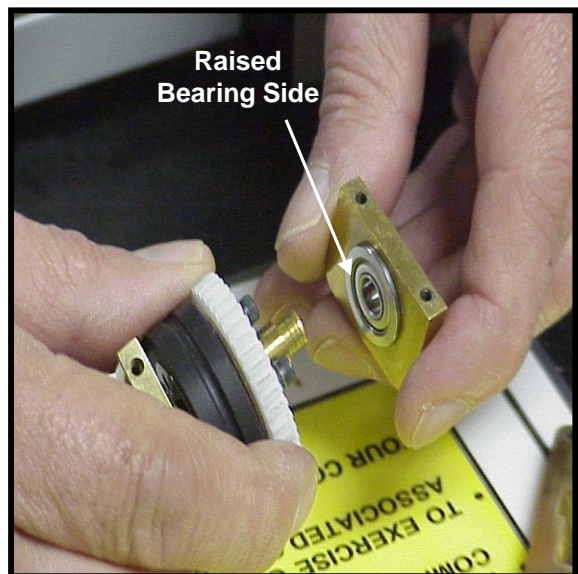

Figure 45
13.5.2.11 Side Plastic Gear-side Bearing Hanger back onto hub shaft with raised Bearing pointing inward toward Gear. See Fig. 45.